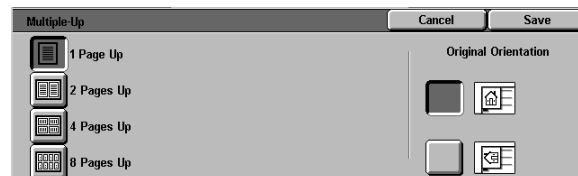

Figure 6: Multiple-Up screen with default selected
- 1 Touch the **Multiple-Up** button on the Output Formats tab to display the Multiple-Up screen (Figure 6).
- **1 Page Up** (default setting, Figure 6)